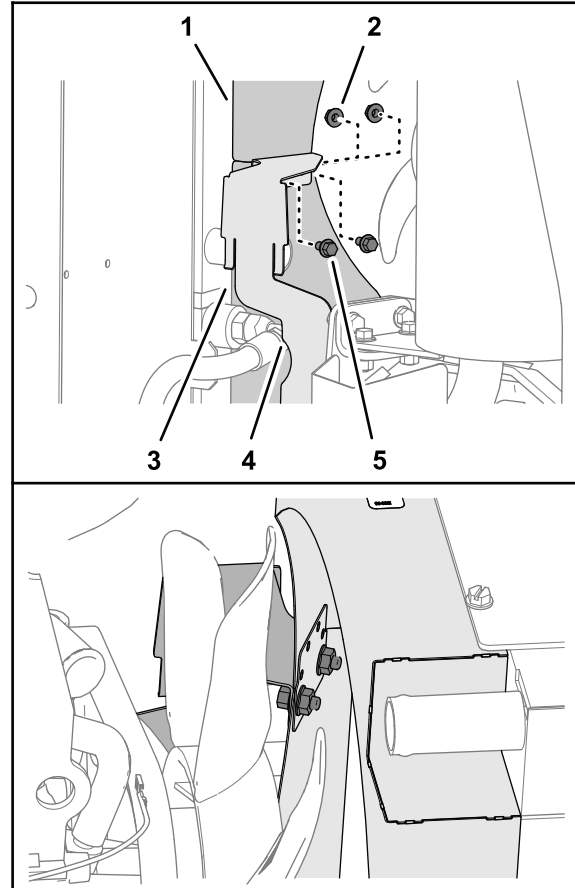

Figure 43
- Assemble the top fan shroud, bottom fan shroud, and coolant reservoir bracket (Figure 43) with 2 flange-head screws (1/4 x 1/2 inch) and 2 serrated-flange nuts (1/4 inch).